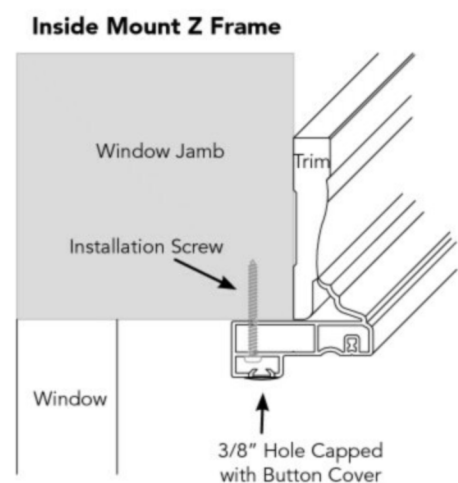

Fig. 4.2
- Once all screws have been installed and panels checked for levelness, cap all holes with the provided button plugs. (See Fig. 4.2)